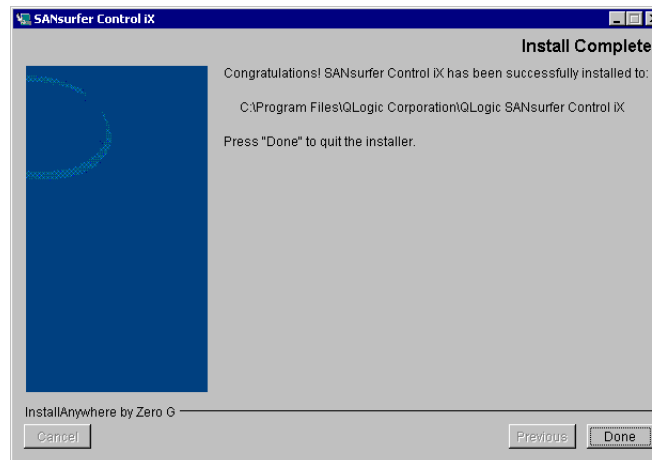

Figure 6-6. Install Complete Dialog Box
8. The **Install Complete** dialog box displays (see figure 6-6). Click **Done**.